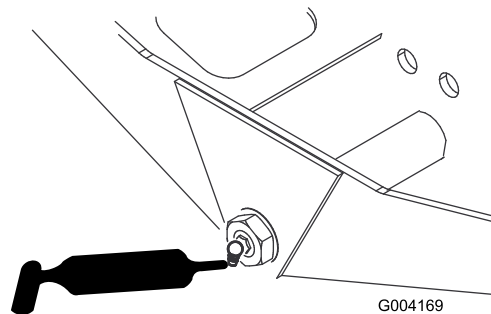

Figure 56
- Axle steering pivot (1) (Figure 56)